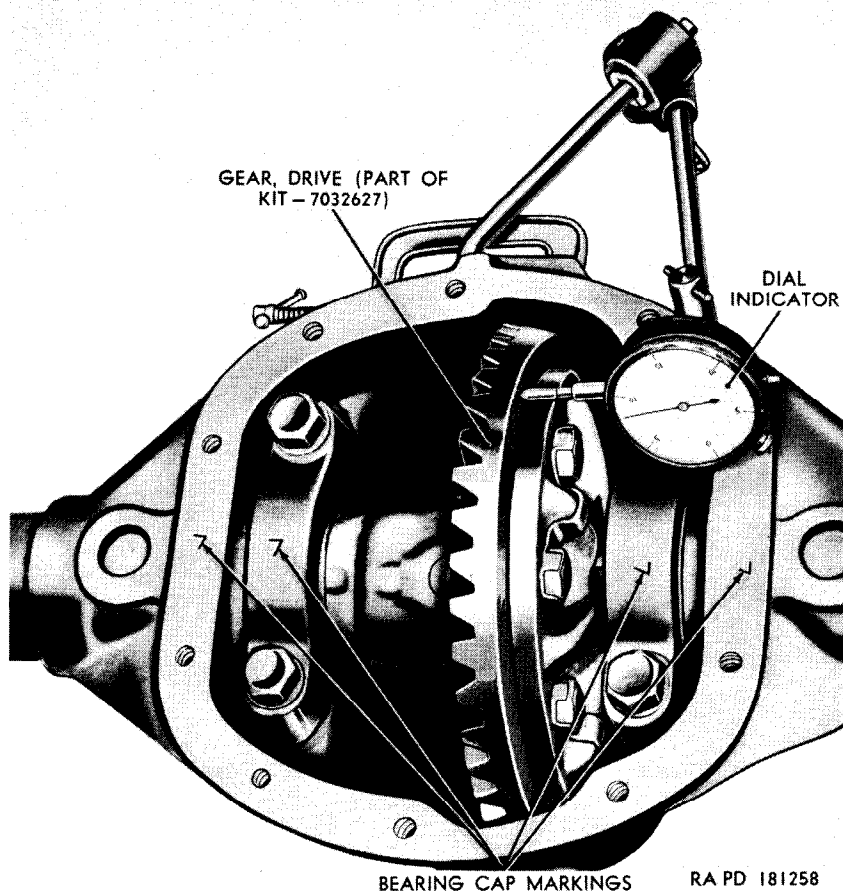

Figure 122. Checking front axle differential drive gear runout.
c. *Check Drive Gear Runout.* Assemble dial indicator on housing so that indicator contact point is resting on flat side of drive gear (fig. 122). Turn drive gear by hand and observe reading on dial indicator. A total indicator reading in excess of 0.003 inch indicates a warped or nicked differential case or an improperly installed drive gear. In either case, remove differential assembly from housing and check surface of differential case and drive gear for chips or nicks. Remove nicks with a fine stone. Check flange on differential case for warpage, by positioning a piece of metal, known to be true, around various points on the flange. If flange of differential case is warped, replace it. Install differential assembly in housing and recheck drive gear runout.